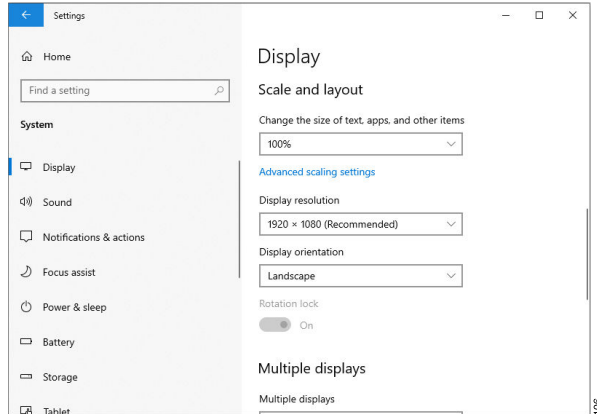

Figure 6. Scale Setting
4. Restart the software to apply changes. Note that Figure 6 is based on Windows 10.